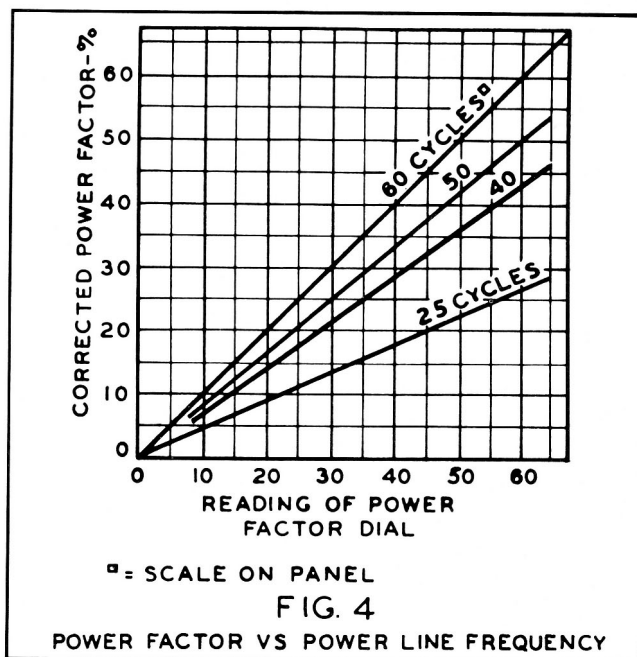

Figure 4. Power Factor Calibration Curves
(2) Plug the Bridge test leads into the pin jacks marked C-R, LEAKAGE, I-R. Connect the clips at the other end of the test leads securely to the terminals or leads of the capacitor under test.
(3) Set the METER RANGE switch to the 5 MA position.
(4) Apply operating power to the Analyzer by turning the ADJUST VOLTS control knob clockwise. Set the control to about 450.
(5) After allowing the equipment to warm up for at least one minute, slowly rotate the main bridge control until a null condition is obtained, as indicated by the widest possible opening of the wedge on the electron-ray indicator tube.
(6) To determine the capacitance, obtain the reading from the appropriate scale, and multiply by the proper scale factor as indicated by the setting of the master selector switch.
(7) To check electrolytic capacitors, balance the bridge as in step (5), above. Set the POWER FACTOR control for maximum opening of the indicator wedge. Then reset the main bridge control for maximum opening. Since these two controls interact, readjust one and then the other, alternately, until the widest wedge is obtained and no further change can be observed. Both capacitance and power factor now can be read directly from the respective scales. If the line-power frequency is of a value other than 60 cycles, refer to the appropriate curve shown in figure 4 for the true power factor at such frequency.
When measuring a capacitor in excess of 100 uf, the capacitor should not be left connected to the bridge terminals any longer than necessary to obtain satisfactory reading. High capacitances may overload the main bridge potentiometer and damage the instrument (see figure 4).